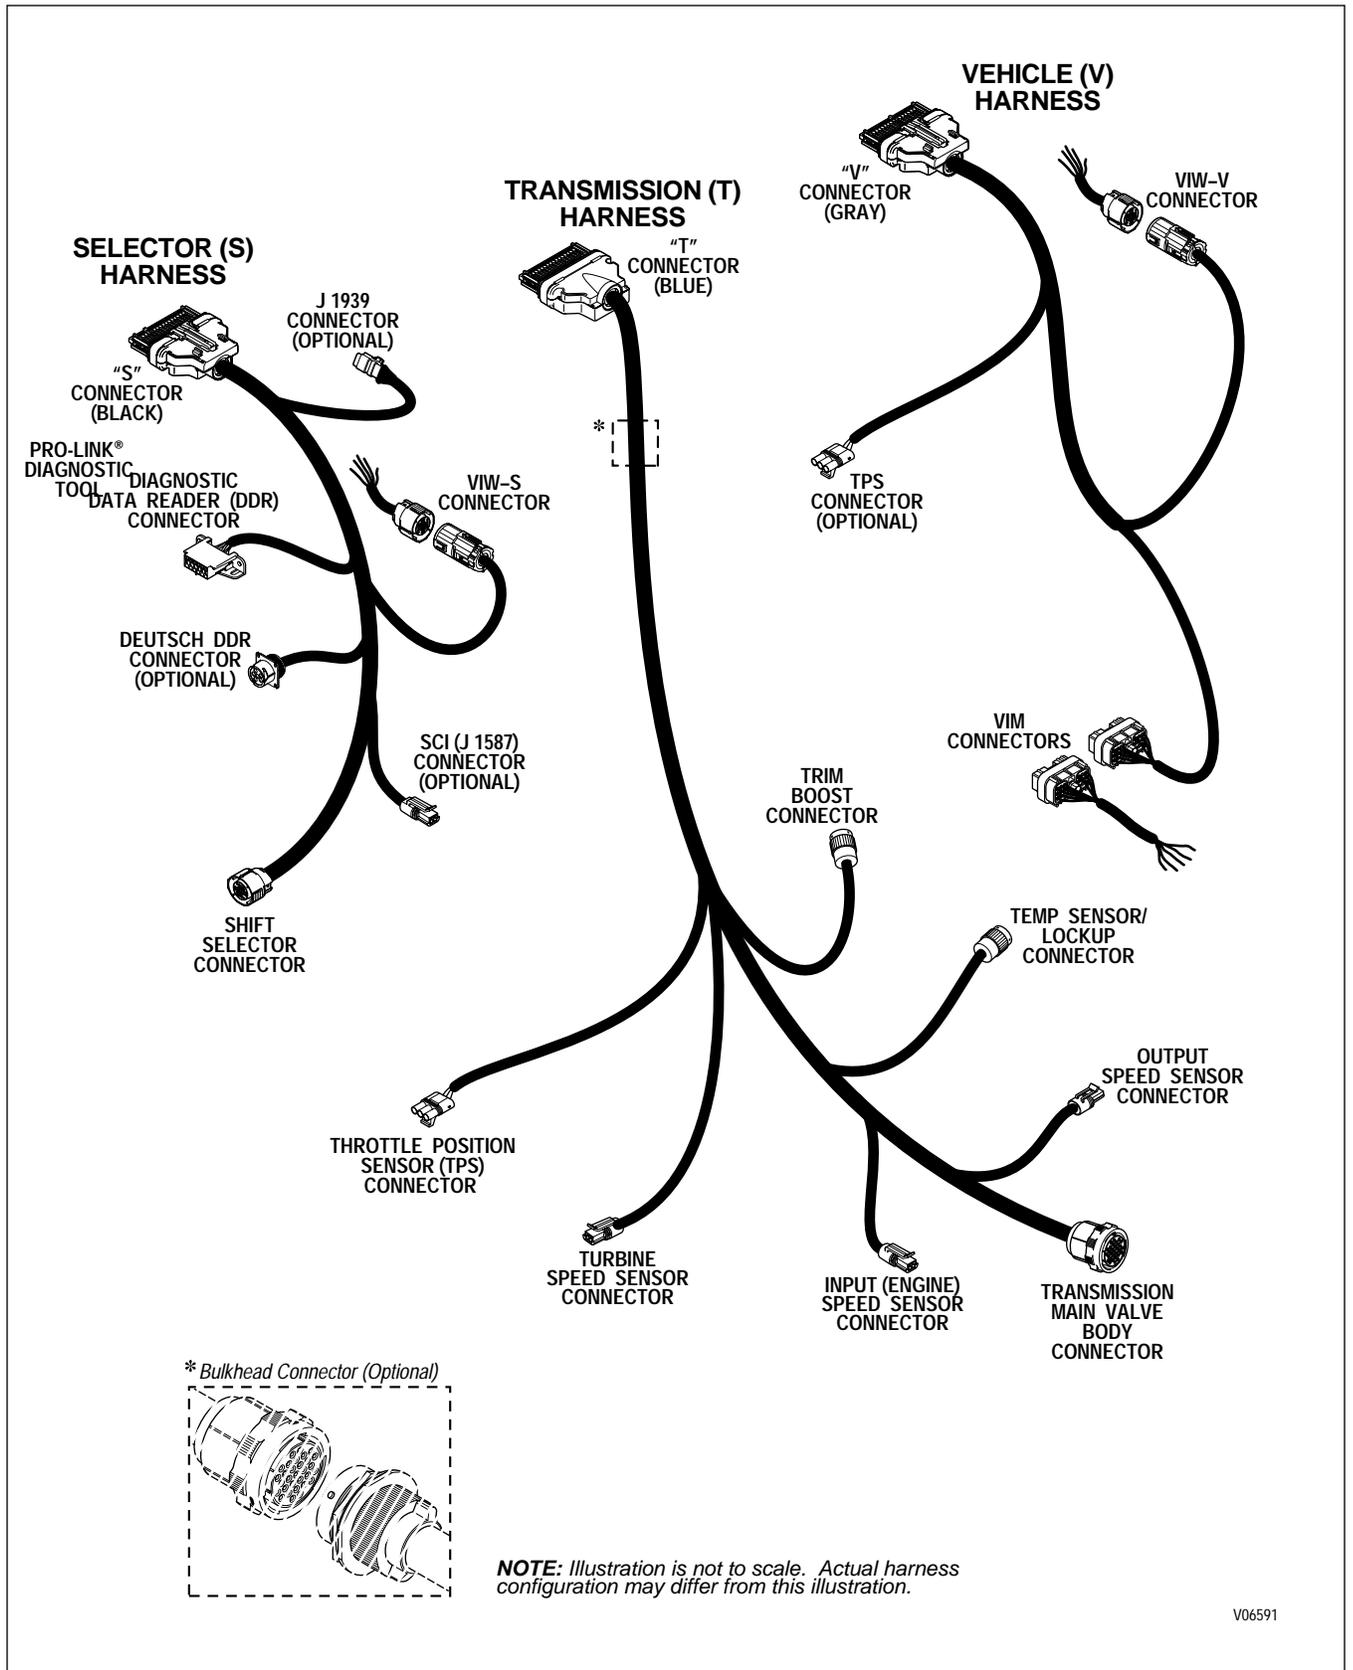

Figure 1-9. CEC 2 External Wiring Harnesses
A. External Wiring Harness (*Figure 1-9*)